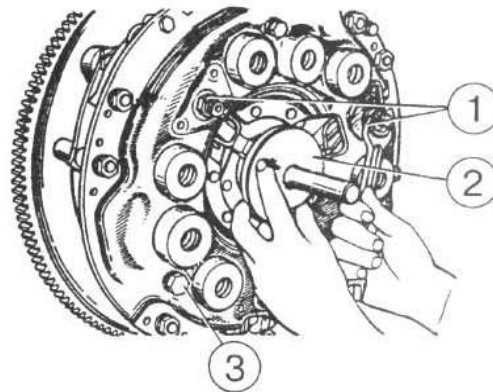

Figure 4.19
- insert rim 2 (Figure 4.19) inside slots of driven and supporting disks and in the inside diameter of flywheel bearing to align splines of disks with flywheel axle;